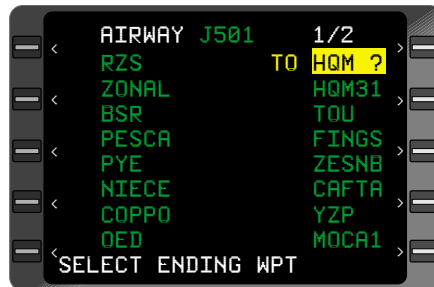

Figure 3-37
- b. ENTER Key - DEPRESS. (Figure 3-37)